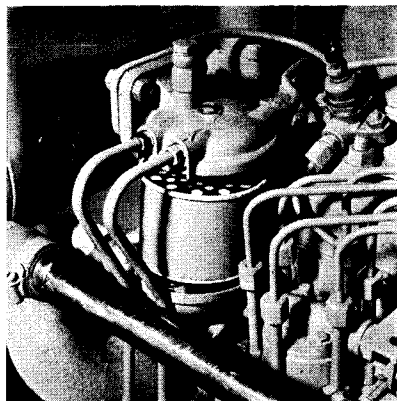

Fig. 12
3. Either lower filter bowl clear and discard element or lower base and discard element. (See fig. 12).